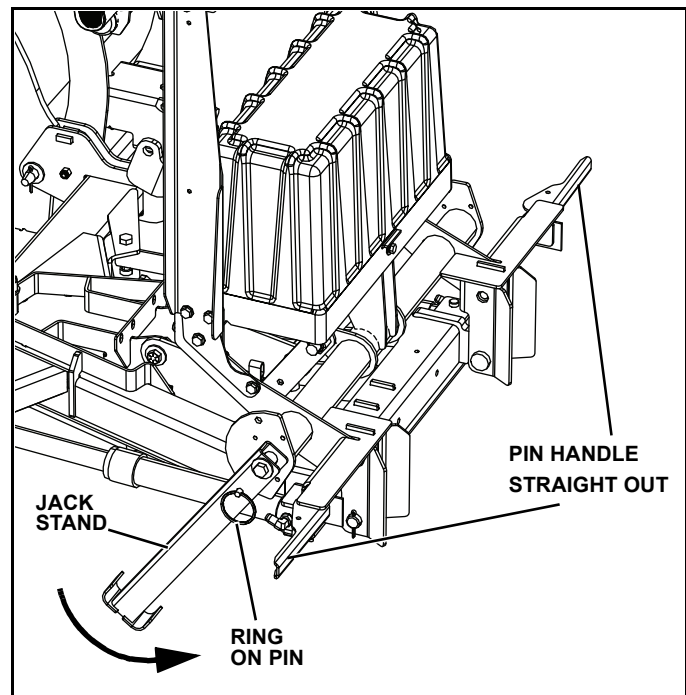

Figure 1-22
2. Pull ring on jackstand to disengage pin. Rotate jackstand towards lowered position. Release pin and continue to rotate until jackstand is locked in lower position. Ensure pin is engaged in hole by rotating jackstand back and forth. (See Figure 1-22.)
5. Push pin handles toward truck to unlock main pins. (See Figure 1-22.)